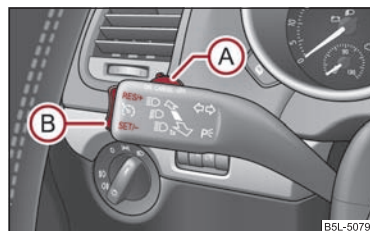

Fig. 114 Operating lever: Rocker button and switch of the cruise control system
The cruise control system is operated by means of the switch **(A)** ⇒ fig. 114 and the rocker button **(B)** in the left lever of the multi-functional switch.
- Press the switch **(A)** ⇒ fig. 114 into the position **ON**.
- You can **increase** the stored speed without depressing the accelerator, by pressing the rocker button **(B)** ⇒ fig. 114 in the **RES** position.
and after shortly pressing the rocker button **(B)** ⇒ page 118, fig. 114 into the position **RES**.
- Press the switch **(A)** ⇒ page 118, fig. 114 to the right into position **OFF**. ■